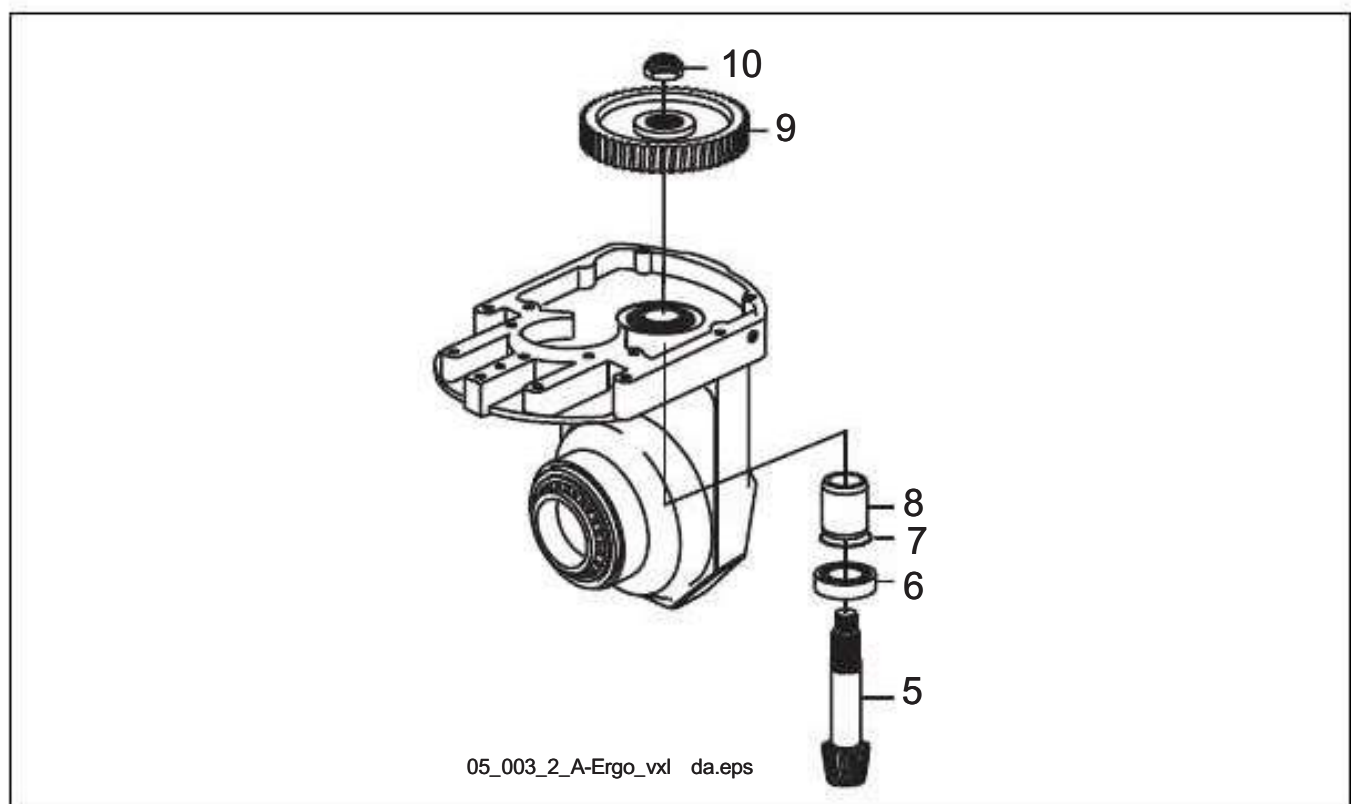

**Figure 5.3** Fit the pinion shaft.
2. Fit the pinion shaft, pos. 5, in its position (see figure 5.3).
5. If the engagement is shown as in the figure, the number of shims, pos. 7, on the pinion shaft, pos. 5, must be reduced (see figure 5.3).
6. If the engagement is shown as in the figure below, the number of shims, pos. 7, on the pinion shaft, pos. 5, must be increased (see figure 5.3).